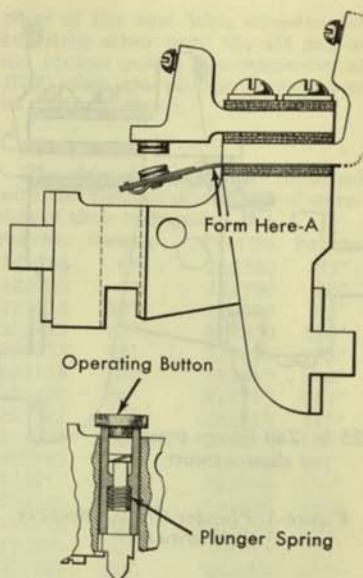

Figure 3. Plunger Circuit Breaker Adjustment 1
1. The lower strap should be formed at point A to provide proper tension. (Figure 3). At the factory these straps are adjusted so that a force of 160 grams plus or minus 10 grams (approximately 6 oz.) applied at the tip of the lower strap will just close the points. This tension must be maintained accurately to prevent a bouncing condition.